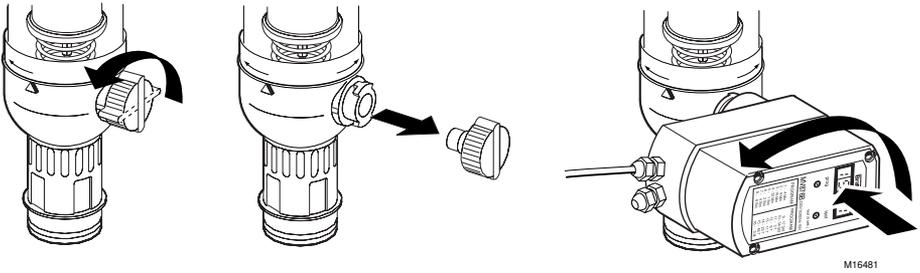

Fig. 9. Installing the MV876.
2. Install the MV876. See Fig. 9 and 10.